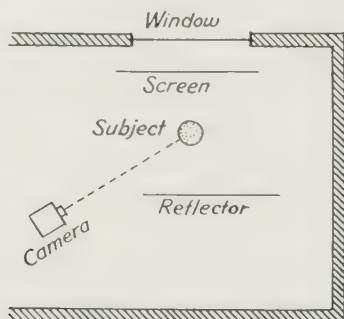

FIG. 58. THE BACKGROUND SCREEN AND REFLECTOR IN POSITION
compensated for in a measure by (4) using the muslin reflector on the opposite and darkest side of the subject, as shown in *Fig. 58*.